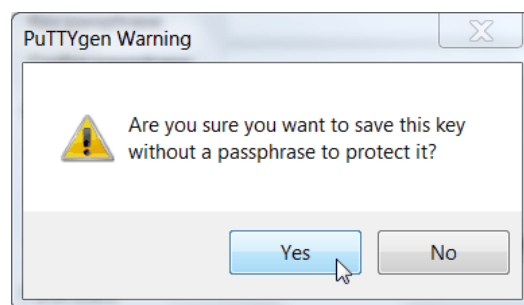

Figure A-5 Confirm the security warning
6. You are prompted with a warning message (Figure A-5). Click **Yes** to save the private key without a passphrase.